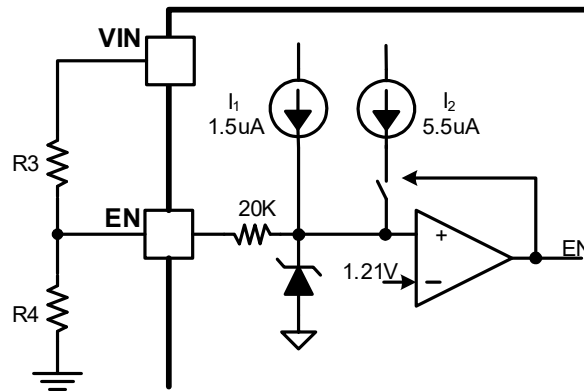

Figure 8. Adjustable VIN UVLO
An internal 1.5uA pull up current source connected from internal LDO power rail to EN pin guarantees that floating EN pin automatically enables the device. For the application requiring higher VIN UVLO voltage than the default setup, there is a 5.5uA hysteresis pull up current source on EN pin which configures the VIN UVLO voltage with an off-chip resistor divider R3 and R4, shown in Figure 8. The resistor divider R3 and R4 are calculated by equation (3) and (4).
The SCT2230H features external programmable output voltage by using a resistor divider network R1 and R2 as shown in the typical application circuit Figure 8. Use equation (8) to calculate the resistor divider values.